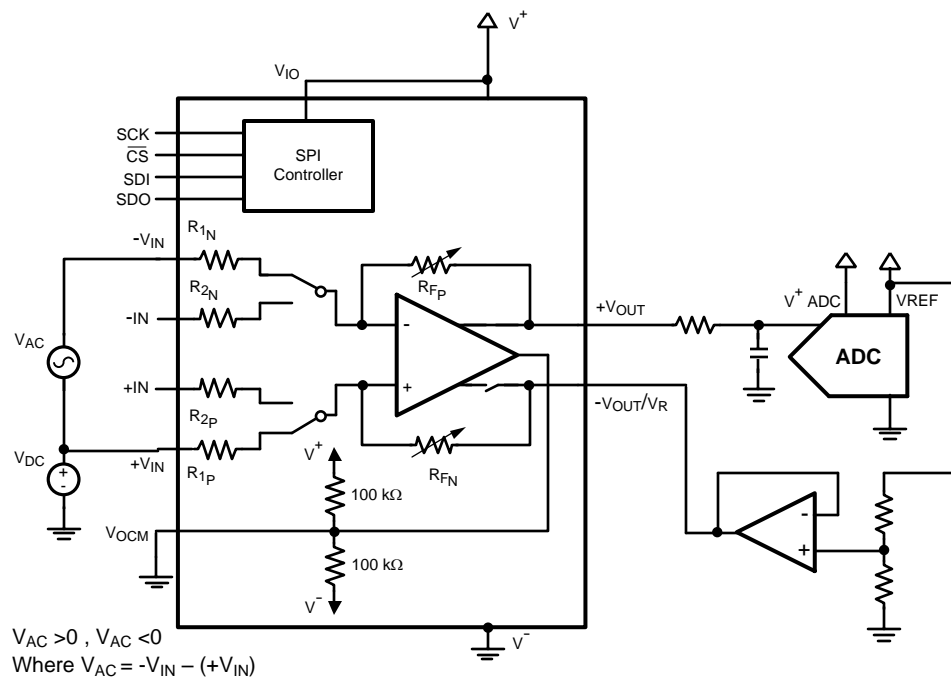

Figure 35. Bipolar Input Signal to Single-Ended ADC Interface
1. In the case of bipolar input signal the non inverting output will be connected to an external reference through a buffer (Figure 35).